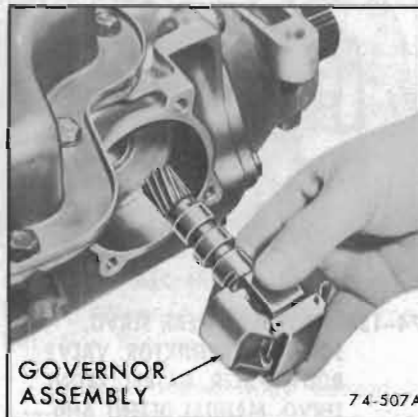

Figure 74-508
2. Withdraw governor assembly from case. See Figure 74-508.